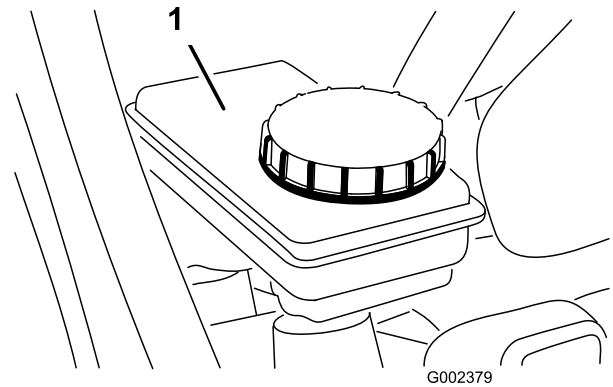

Figure 24
2. Ensure that the fluid level is up to the Full line on the reservoir (Figure 24).
3. If the fluid level is low, clean the area around the cap, remove the reservoir cap, and fill the reservoir to the proper level with the specified brake fluid (Figure 24).